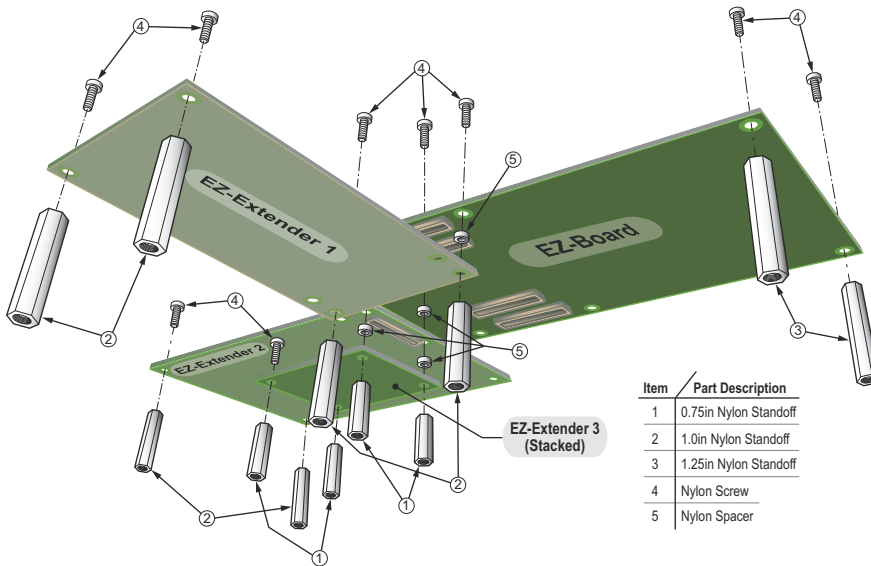

Figure 1-1. Assembled Board Diagram
2. Use the provided hardware to secure the extender to the EZ-KIT Lite/EZ-Board. See Figure 1-1.